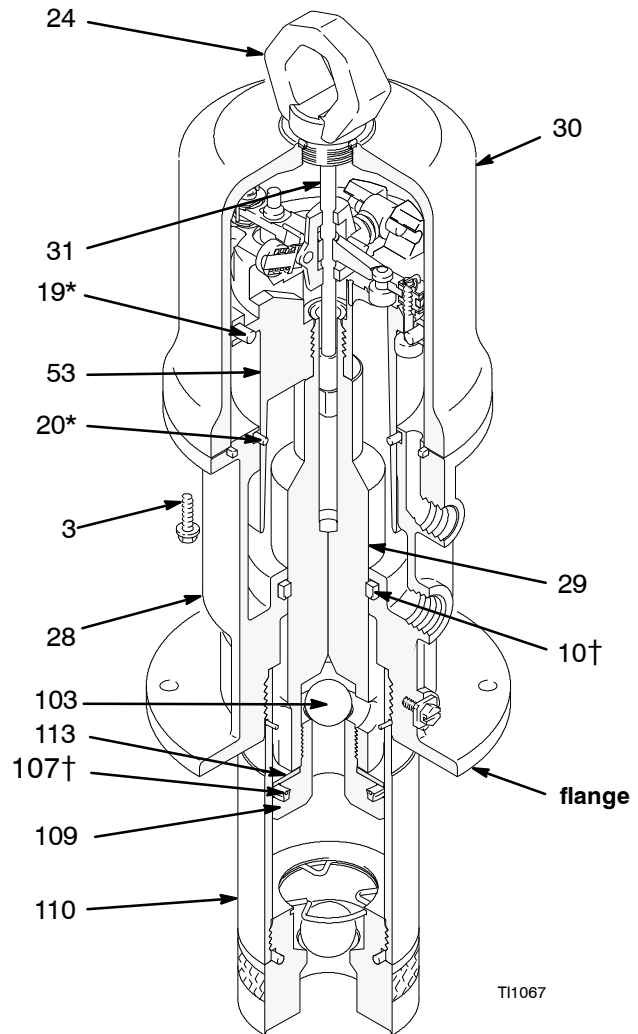

Fig. 3
2. Disconnect the hoses, remove the pump from its mounting, and clamp the air motor base (28) in a vise horizontally by closing the vice jaws on the flange.
3. Use a strap wrench on the displacement pump cylinder (110) to screw it out of the air motor base (28). See Fig. 3.
4. Remove the air motor base from the vise, and place the piston rod (29) flats in the vise with the air motor up.
5. Loosen the lift ring (24). Pull the lift ring up, grip the trip rod (31) with the padded pliers, and screw the lift ring off of the rod.
6. Remove the piston/valve seat (109) from the rod (29) with wrenches or with the vise and a wrench.
7. Remove the piston ball (103), u-cup packing (107†), and piston washer (113).
8. Remove the six screws (3) holding the cylinder (30) to the base (28). Carefully pull the cylinder straight up off of the piston (53).
- Slide the piston rod (29) down through the packing, and lower the piston (27) into the air motor base (28).
- Clamp the air motor base (28) in a vise horizontally by closing the vice jaws on the flange.
- Install the u-cup packing (107†) with the lips up, and place the piston washer (113) on the piston/valve seat (109).
- NOTE:** Make sure the lips of the u-cup packing (107†) face up. See Fig. 3.
- Place the piston ball (103) in the piston rod (29).
- Apply Loctite® to the threads of the piston/valve seat (109), and thread the assembly from Step 14 onto the piston rod (29).
- Clamp the flats of the piston/valve seat (109) in a vise, and, using a crow's-foot wrench, torque the piston rod (29) to the piston valve seat to 40 to 60 ft-lb.
- Use a strap wrench to screw the displacement pump cylinder (110) to the air motor base (28), and torque with a crow's-foot wrench to 95 to 105 ft-lb.